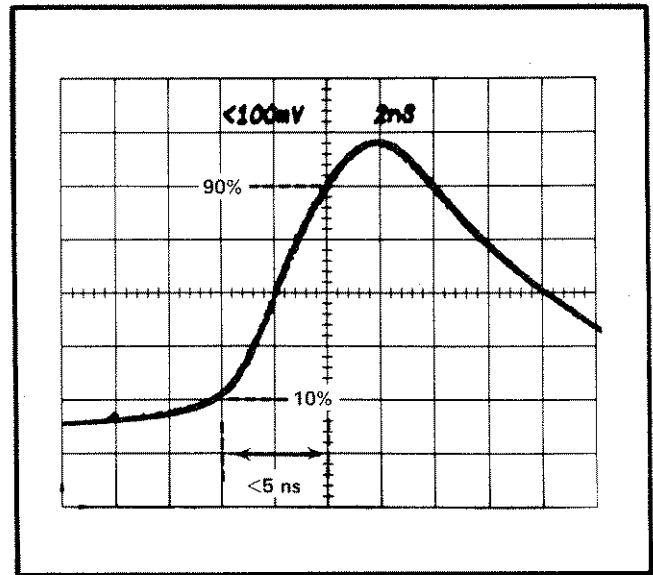

Fig. 5-6. PRETRIGGER OUT risetime.
e. Set the 7S11 Variable for a 5 division amplitude at the rising portion. Set the 7T11 Time/Div to 2 ns and use the 7T11 Time Position control and the 7S11 DC Offset control to center the pulse on the CRT. See Fig. 5-6.
f. Measure the risetime from the 10% to the 90% amplitude (center four divisions) to be 5 ns or less. Refer to Fig. 5-6.
b. Adjust R10 (see Fig. 5-6 for its location) for about 115 ns of lead time.